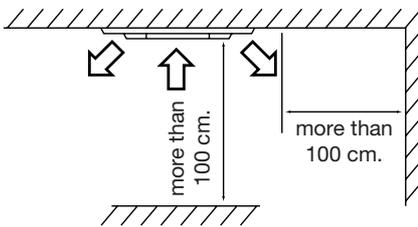

Figure 1
- Select the location where a space is more than 100 cm. as shown in figure 1 also ensure that the position dose not interfere with light fitting, sprinkle head, etc.